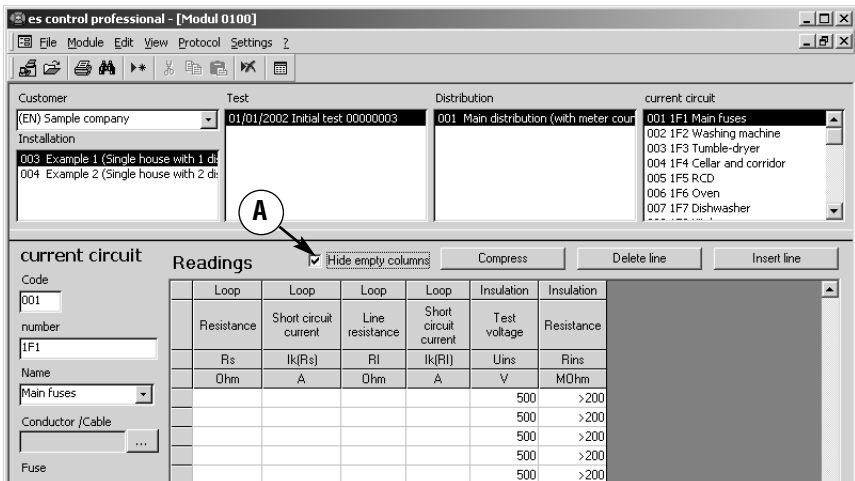

Figure 5.40: “Measurements” window
- ▶ To hide empty columns click on the marked field ‘Hide empty columns’ (A). The read-in measurement results are represented as shown in Figure 5.40.